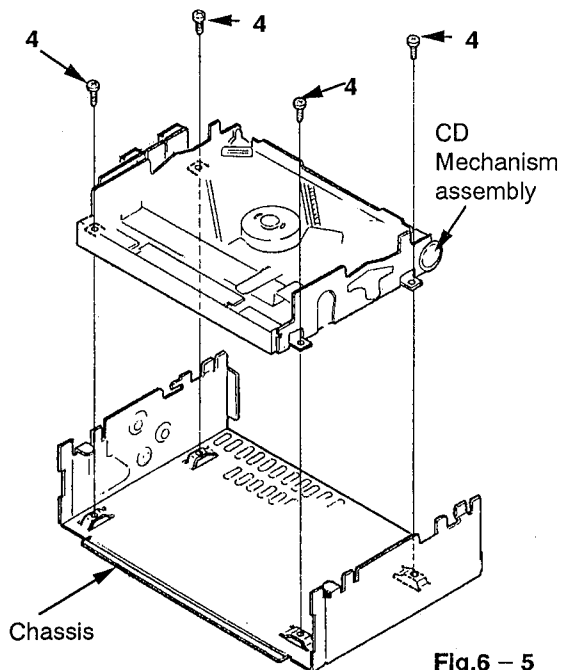

Fig.6 - 5
■ Removal of CD pickup (Fig.6 - 6, 6 - 7, 6 - 8)
3. Place the CD mechanism assembly to expose the bottom side upward, and remove a screw "6" retaining the pickup shaft (A) to remove it together with the shaft holder.
4. Loosen a screw "7" retaining the pickup shaft (A) in the other side.
5. Loosen a screw "8" retaining the pickup shaft (B).